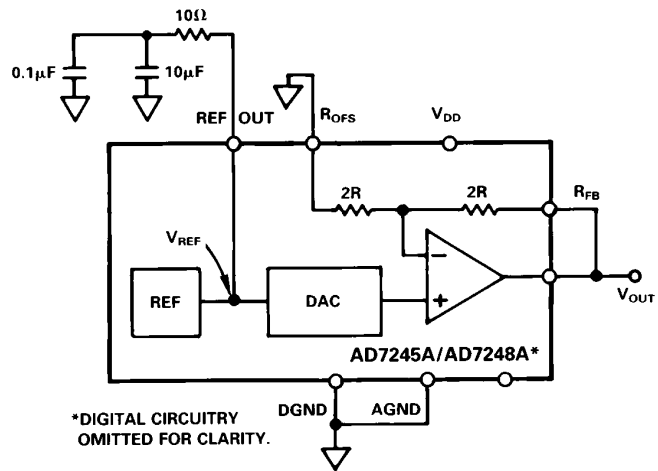

Figure 8. Unipolar (0 to +10 V) Configuration
*REFERENCE DECOUPLING COMPONENTS AS PER FIGURE 8
The first of the configurations provides an output voltage range of 0 V to +10 V. This is achieved by connecting the bipolar offset resistor, R_{OFS} , to AGND and connecting R_{FB} to V_{OUT} . In this configuration the AD7245A/AD7248A can be operated single supply ($V_{SS} = 0 V = AGND$). If dual supply performance is required, a V_{SS} of -12 V to -15 V should be applied. Figure 8 shows the connection diagram for unipolar operation while the table for output voltage versus the digital code in the DAC latch is shown in Table III.